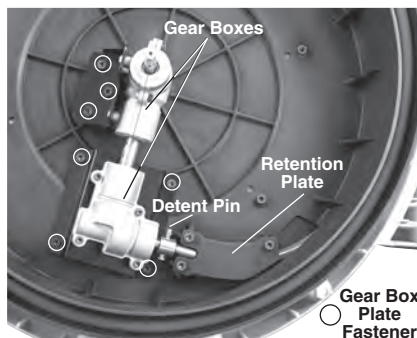

Figure 14 – Drain Cleaner Housing Opened
2. Remove the fasteners holding the housing closed (4 mm hex wrench) and open the housing (Figure 14).
3. Remove retention plate fasteners and retention plate (Figure 14).